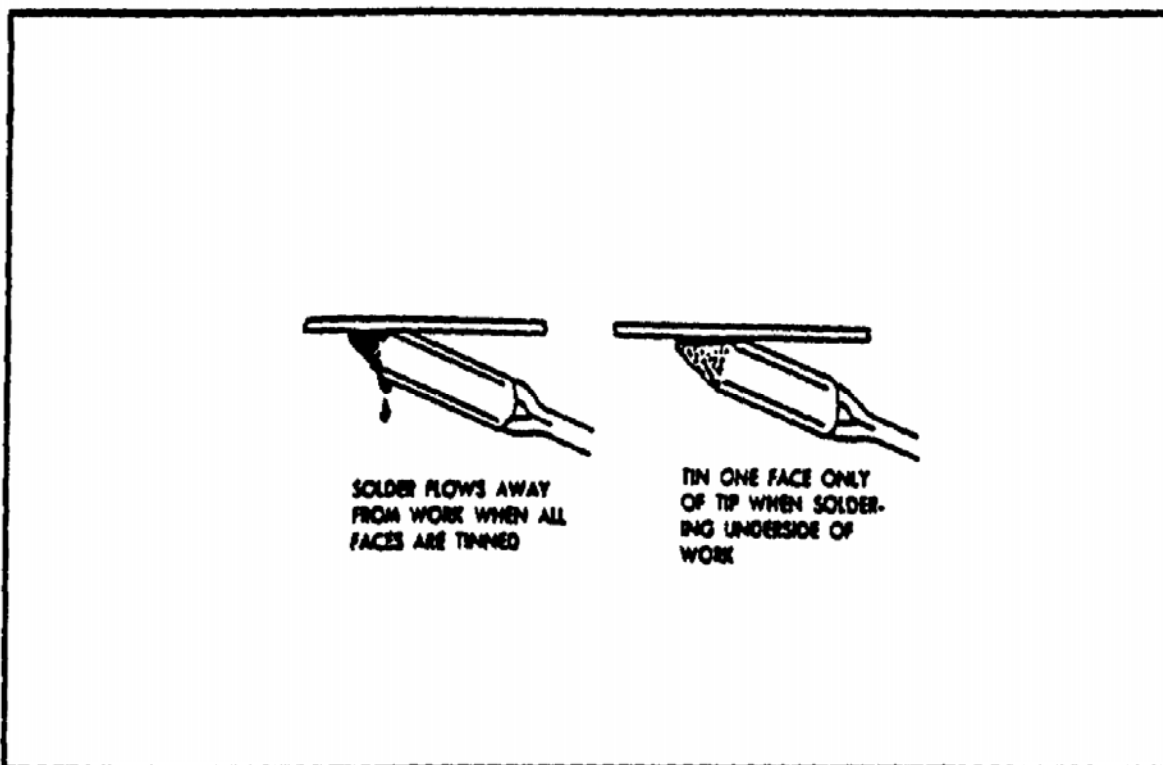

FIGURE 57. PROPER TINNING OF SOLDERING IRON.
(1) *Tinning.* Before any soldering iron can be used, the faces of the tip must be filed smooth and tinned (coated with solder). For ordinary work, a soldering iron is tinned on all four faces. For work where the iron is held under the object to be soldered, as when soldering wire splices, only one face is tinned (figure 57). Molten solder on a tip with all faces tinned will not remain on the upper face, but will run to the bottom, forming a drop. When only one face is tinned (that face turned up), solder melted upon it will not drip off. Tin an electric soldering iron as indicated in (a) through (d) below.